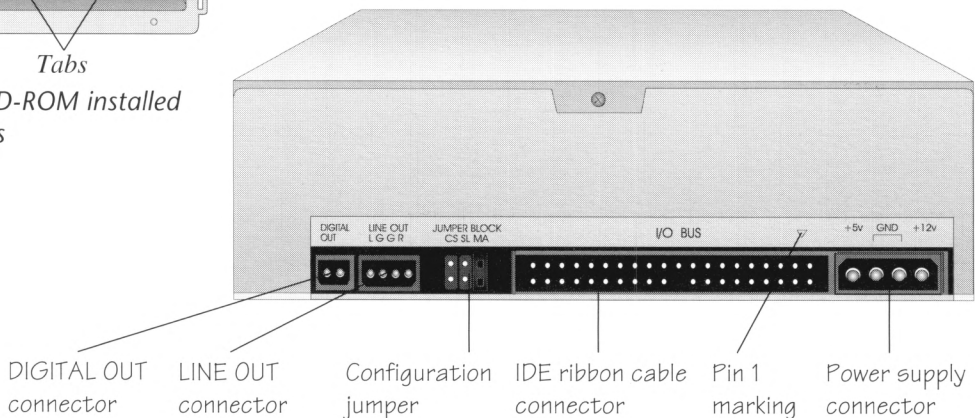

Fig. 4: Back of the CD-ROM drive (configured as master drive)
6. Attach a large, 4-pin power supply cable to the power supply connector on the back of the drive. The cable is keyed so it only goes on the correct way. (See Figure 4.)
9. Attach the connector on the other end of the IDE cable to the connector labeled "I/O BUS" on the back of the drive. Align the cable so its red striped edge (pin 1) is next to the power supply connector. (See Figure 4.)
10. If you have a sound card, connect the sound cable that came with your CD-ROM drive to the connector labeled "LINE OUT" on the back of the CD-ROM drive. (See Figure 4.) Connect the other end to the internal audio input connector on your sound card. (Remove any other sound cables connected to your sound card.)